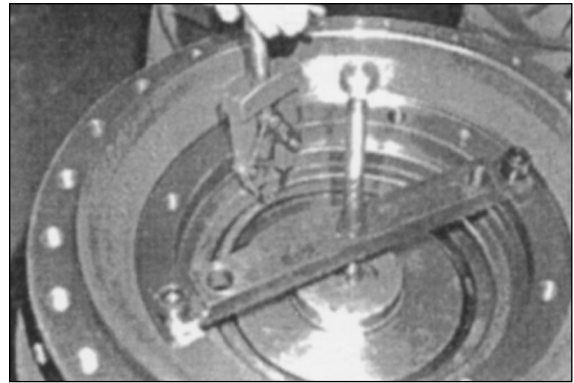

Figure 121
30. Install circlip using circlip pliers. Figure 121.